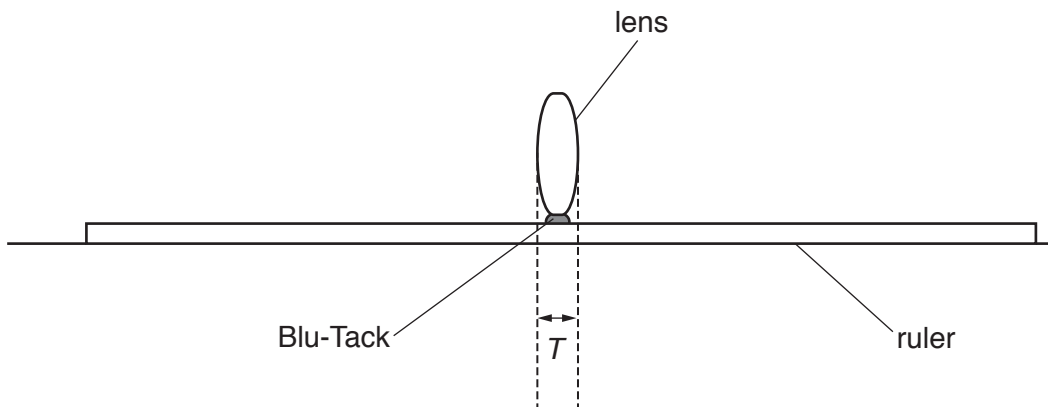

Fig. 1.3
- (c) Using a **small** piece of Blu-Tack, stand the lens vertically on the ruler as shown in Fig. 1.3.
- (i) On Fig. 1.3 draw a diagram to show how to determine the thickness T of your lens at its centre using two set squares.